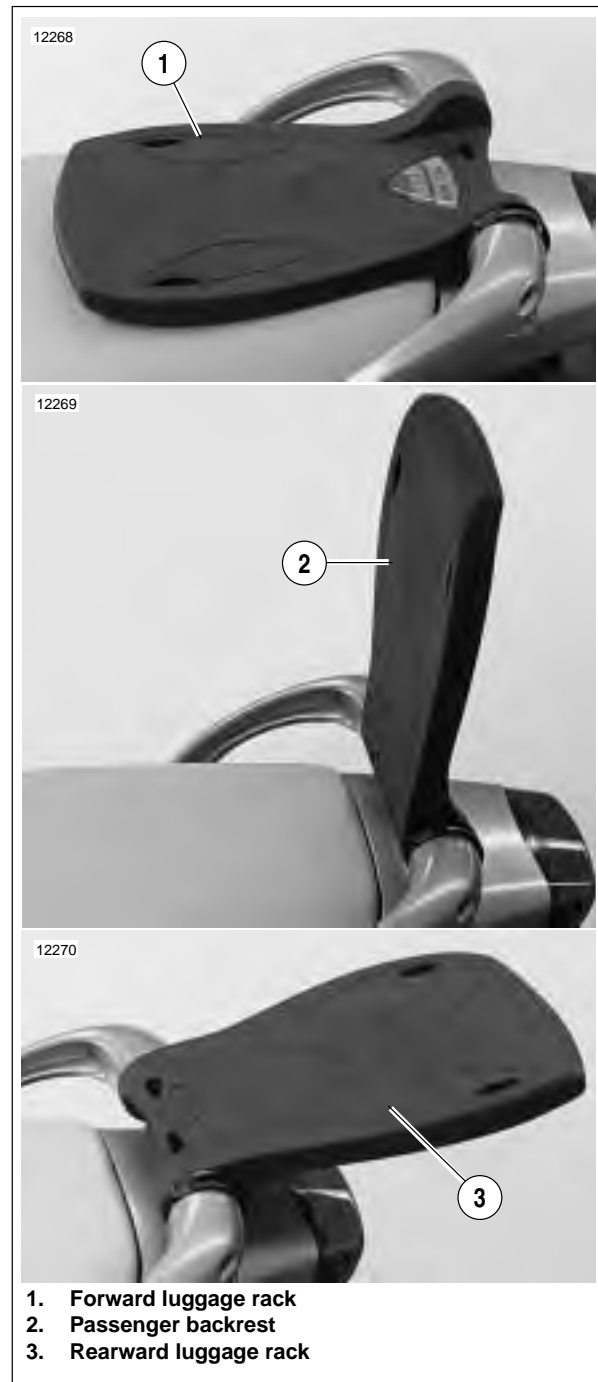

Figure 2-140. Triple Tail Positions
See Figure 2-140. The Triple Tail™ when folded forward acts as a luggage rack (1) with integrated tie-down hooks. When in the upright position, it is a passenger backrest (2) with subtle flex for passenger comfort. When in the rearward position, you can carry a passenger and have a luggage rack (3) for extra carrying capacity.